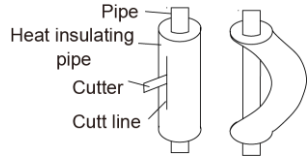

Fig. 4.11
- (2). Do not bend the pipes in an angle more than 90°.
- (3). When pipes are repeatedly bent or stretched, the material will harden, making it difficult to bend or stretch them any more. Do not bend or stretch the pipes more than three times.
- (4). When bending the pipe, do not bend it as is. The pipe will be collapsed. In this case, cut the heat insulating pipe with a sharp cutter as shown in Fig. 4.11, and bend it after exposing the pipe. After bending the pipe as you want, be sure to put the heat insulating pipe back on the pipe, and secure it with tape.